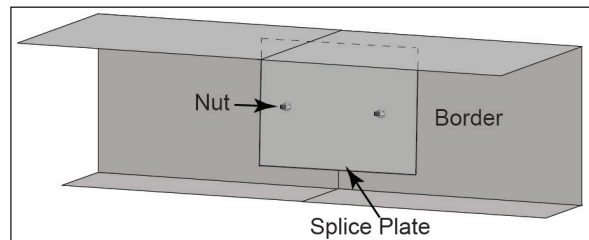

Figure 18: Flat Seam Splice Installation
20. Locate the flat splice plates and nuts used on border splice locations. Refer to **Figure 18**.